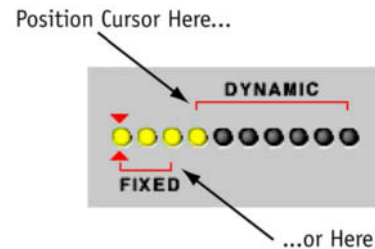

Figure 42 – Changing Filter Allocations with the Mouse
1. Position the cursor between the red brackets as indicated to the right in figure 42.